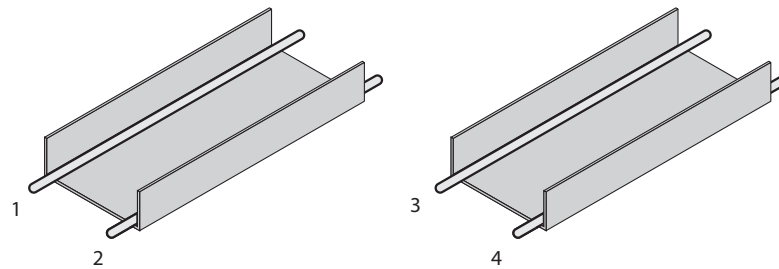
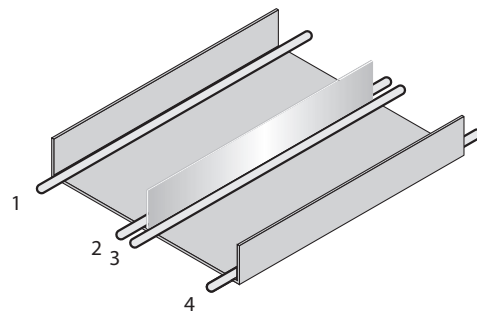

Figure 4: Ideal laying - Place cables in different cable channels
Figure 5: Alternative laying - Separate cables with metallic separators
- ▷ Cables in groups 1, 2 and 3, 4 must be routed in different cable channels or metallic separators must be used, see figure 4 and see figure 5. This applies particularly where cables of devices with a high level of radiated emission, such as frequency converters, are laid parallel to sensor cables.